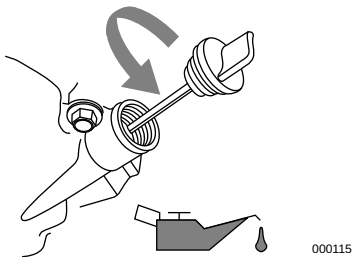

Figure 2-10. Remove Dipstick
3. See Figure 2-10. Remove oil fill cap and wipe dipstick clean.